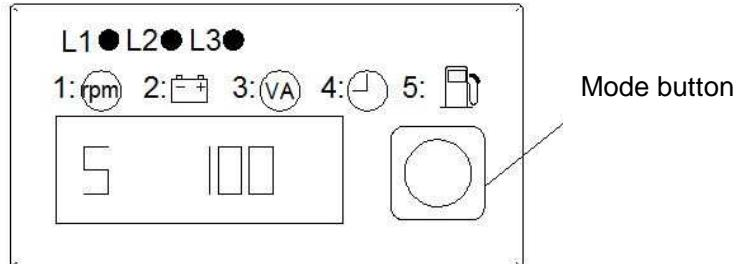

Figure 23
(5) Figure 23 is the display of oil level. When the mode button selects mode 5, the displayer shows oil level percentage.